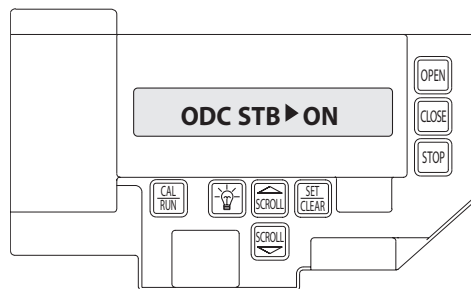

Figure 16
- 2) Press SCROLL  (up or down) until display reads "ODC STB>ON" or "ODC STB>OFF" **Figure 16**